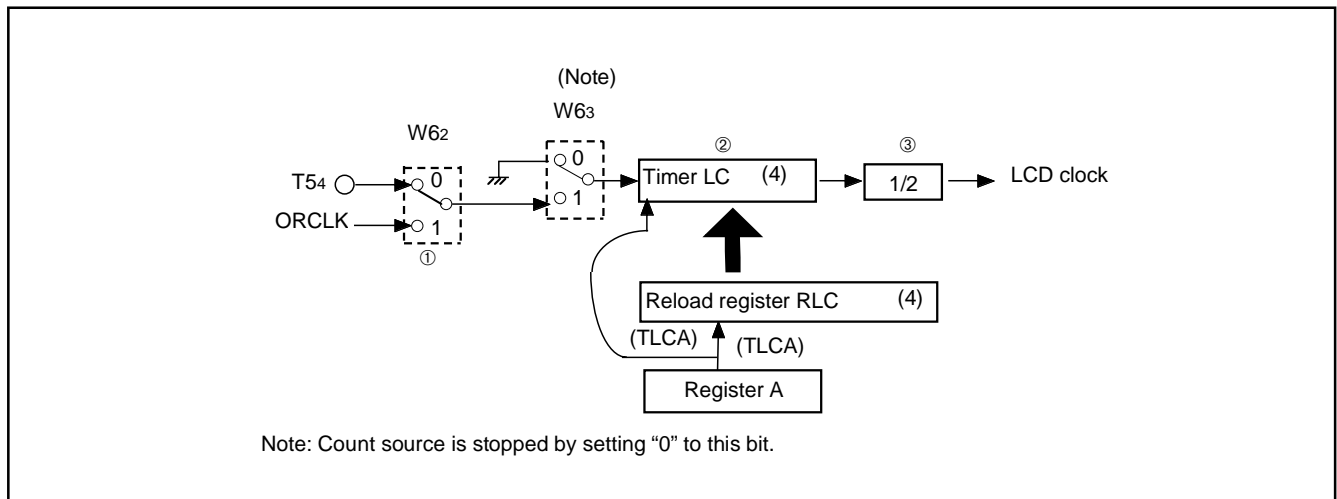

Fig. 42 LCD clock control circuit structure
(2) LCD clock control
The LCD clock is determined by the timer LC count source selection bit (W62), timer LC control bit (W63), and timer LC. Accordingly, the frequency (F) of the LCD clock is obtained by the following formula. Numbers (① to ③) shown below the formula correspond to numbers in Figure 42, respectively.